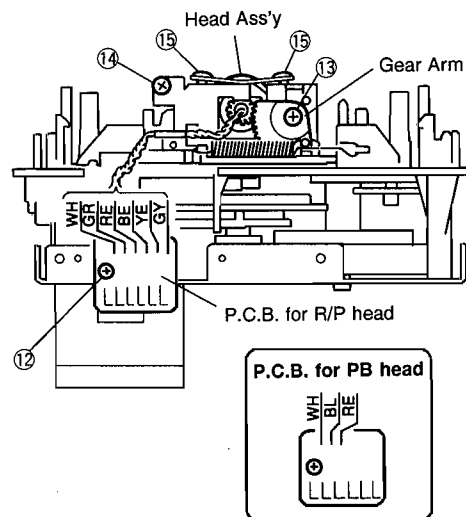

Fig. 7
- c. Remove 1 screw (12) and then remove the P.C.B. for head in Fig. 7.
- d. Remove 1 screw (13) and then remove the Gear Arm in Fig. 7.
- e. Remove 1 screw (14) and 2 screws (15) and then remove the Head Ass'y in Fig. 7.